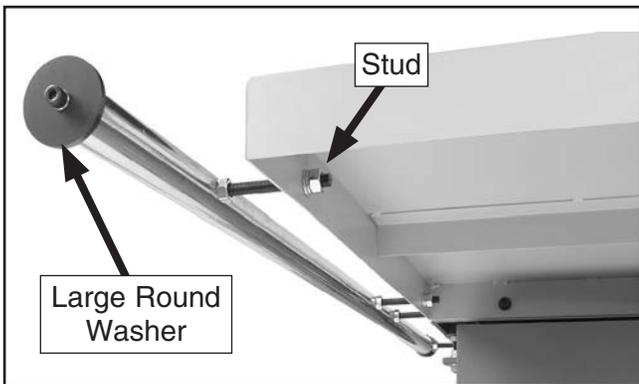

Figure 14. Round rail installed.
7. Install the rail with the studs through the holes in the tables, as shown in **Figure 14**, and use the hardware removed in the previous step to secure the rail to the tables.